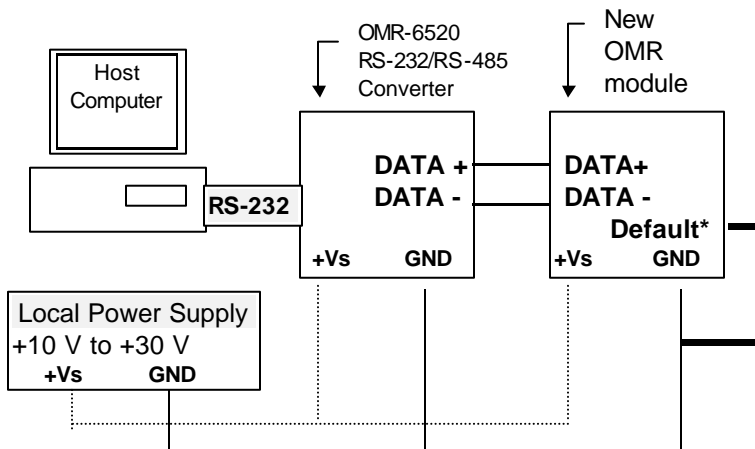

Figure 2-1 Layout for Configuring the OMR module
2. Connect a brand new OMR module with the RS-485. Set the module in *Default State* by shorting the **DEFAULT\*** pin. Refer to Figure 2.1 for detailed wiring.